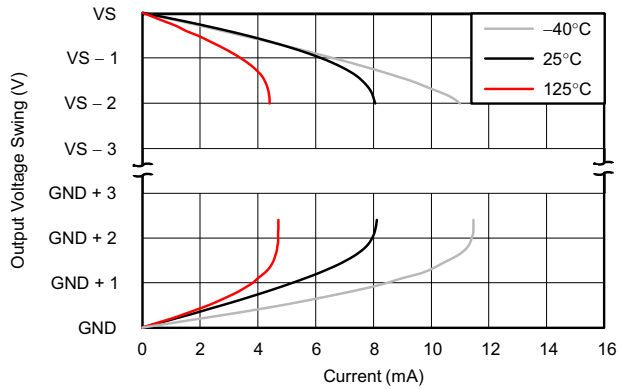
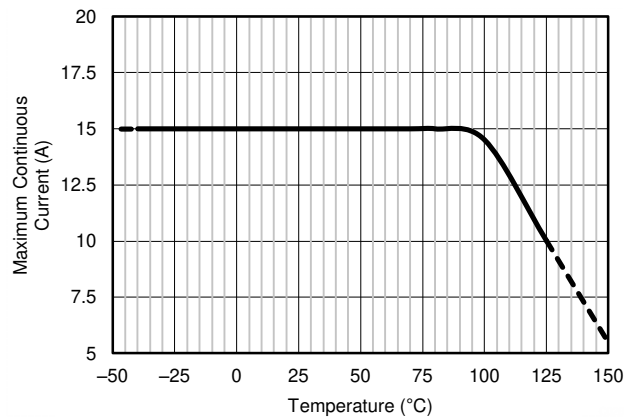

图 6-19. Output Voltage Swing vs Output Current
图 7-1. Maximum Current vs Temperature
- (1) RTI = referred-to-input.
- (2) See *Output Voltage Swing vs Output Current* (图 6-19).
- (3) The supply voltage range maximum is 36 V, but the reference voltage cannot be higher than 18 V.
- (4) See 图 7-1 and the *Layout* section for additional information on the current derating and layout recommendations to improve the current handling capability of the device at higher temperatures.
- (5) See the *Integrated Shunt Resistor* section for additional information regarding the integrated current-sensing resistor.
- (6) System gain error includes amplifier gain error and the integrated sense resistor tolerance. System gain error does not include the stress related characteristics of the integrated sense resistor. These characteristics are described in the *Shunt Resistor* section of the *Electrical Characteristics* table.
- (7) The internal shunt resistor is intended to be used with the internal amplifier and is not intended to be used as a stand-alone resistor. See the *Integrated Shunt Resistor* section for more information.
External factors (such as ambient temperature, external air flow, and PCB layout) may contribute to how effectively the heat developed from the current flowing through the total package resistance may be removed from the device. Under the conditions of no air flow, a maximum ambient temperature of +85°C, and 1-oz. copper input power planes, the INA250-Q1 device can accommodate continuous current levels up to 15 A. As shown in Figure 7-1, the current handling capability is derated at temperatures above the +85°C level with safe operation up to 10 A at a +125°C ambient temperature. With air flow and larger 2-oz. copper input power planes, the INA250-Q1 may safely accommodate continuous current levels up to 15 A over the entire -40°C to +125°C temperature range.